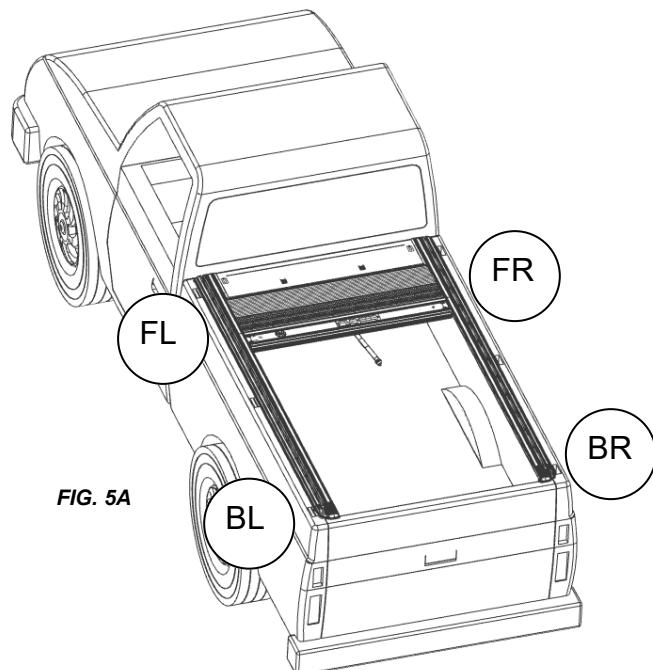

FIG. 5A
Slide the clamp extensions from the tailgate end of each rail as pictured in Figure 5A-5E. Ensure that your tailgate end and cab end extensions are in the correct orientation. Each clamp extension is labeled for front left (FL), front right (FR), back left (BL), and back right (BR). The extensions go on the corners shown in figure 5A.
Place the 4 allen screws (8) in the clamp rail grips as indicated in Figure 5a and tighten them.
Place the 4 Allen Screws (8) in the clamp rail grips as indicated in Figure 5a and tighten them.